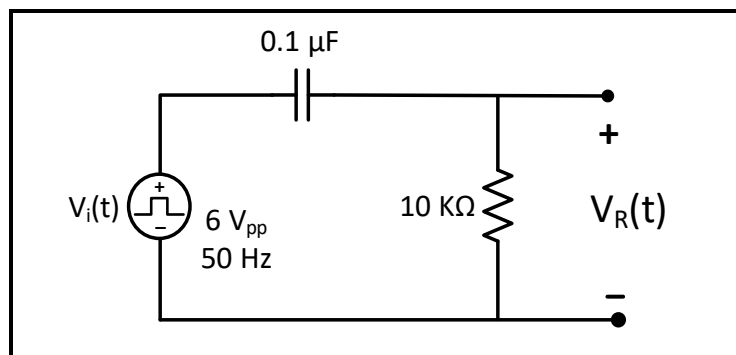

Figure 5.9
5. **Repeat steps 1-4 for the circuit of Figure 5.9**, but this time showing $V_R(t)$ instead of $V_C(t)$, and estimating the value of τ_R .